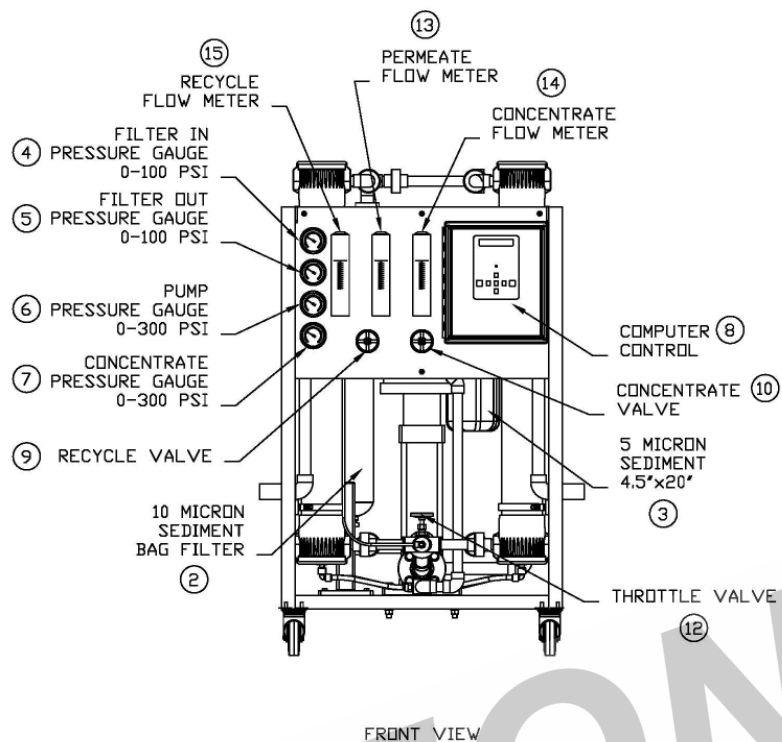

FIGURE 1B
2. Fully open the concentrate valve #10 (counter clockwise). (Figure 1B, Page 17)
3. Fully close the recycle valve # 9 (clockwise) (if applicable). (Figure 1B, Page 17)
5. Turn the feed water on and let the system purge until no visible bubbles appear from concentrate flow meter #14. (Figure 1B, Page 17)
6. Fully open the throttle valve #12 (Counter Clockwise). (Figure 1B, Page 17)
3. Fully close the recycle valve # 9(clockwise)(if applicable). (Figure 1B, Page 17)
4. Fully open the throttle valve #12 (counter clockwise). (Figure 1B, Page 17)
5. Return position of the bypass white lever inline on the solenoid valve #1. (Figure 1B, Page 16)
6. Turn the RO system on #8 and adjust the concentrate (waste) valve #10, recycle valve # 9 (if applicable), and the throttle valve to the designed flow and pressure. (Figure 1B, Page 17)